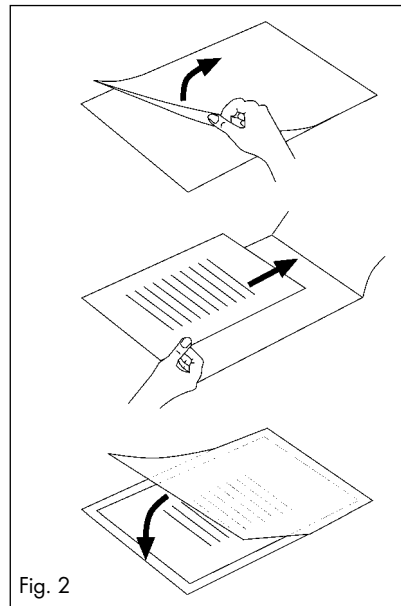

Fig. 2
- ▶  Make certain that you use only one pouch for laminating. First flip it up, as shown in Fig. 2.